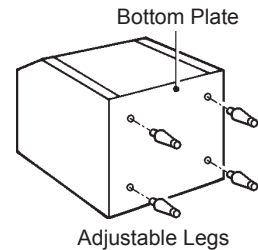

Fig. 3
1) Fully screw in the four legs provided (bin accessory) into the Storage Bin underside. See Fig. 3.